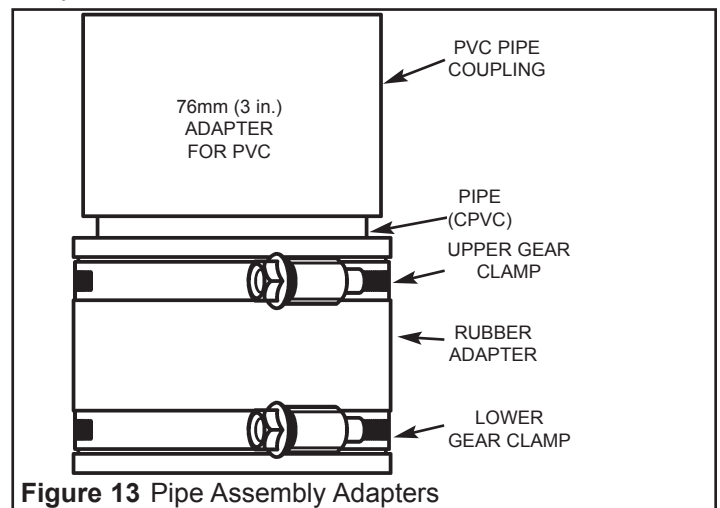

Figure 13 Pipe Assembly Adapters
- **Pipe assembly adapter must be used with PVC venting material (see Figure 13).
1. The plastic vent piping connects into the rubber coupling located on the top of the blower assembly. This coupling includes gear clamps to connect the venting to the blower. These connections must be properly seated and tightened to prevent the leakage of flue gases into the area. See Figures 13 & 14.